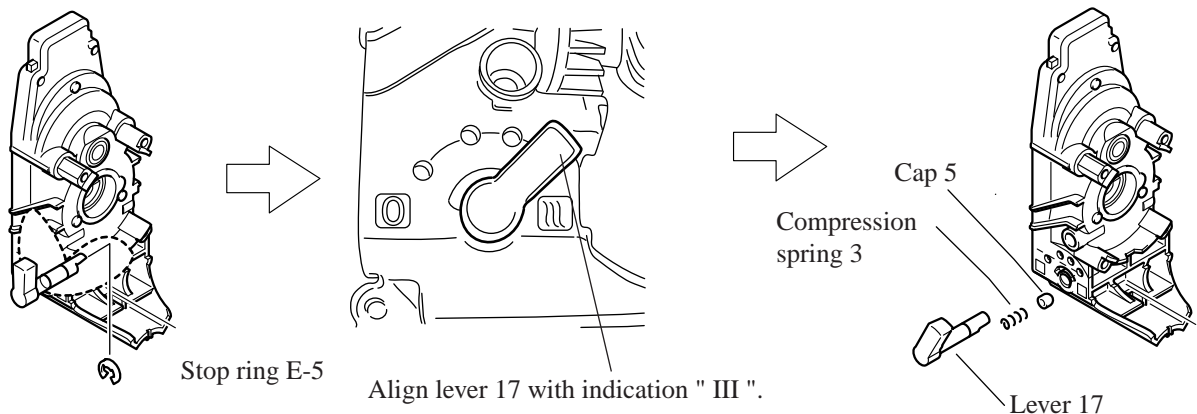

Fig. 37
2. Disassemble stop ring E-5 from the shaft portion of lever 17 with small flat head screwdriver. See Fig. 37.